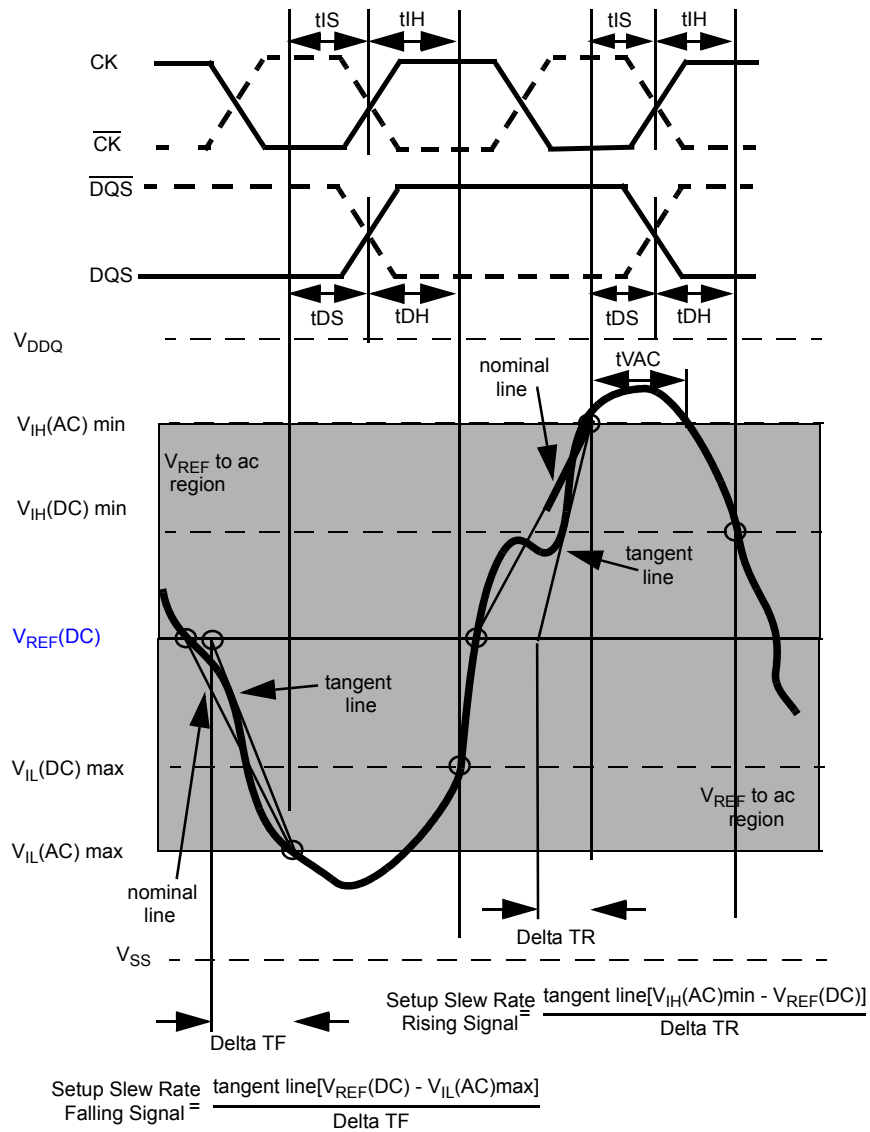

Figure 27 - Illustration of tangent line for setup time t_{DS} (for DQ with respect to strobe) and t_{IS} (for ADD/CMD with respect to clock)
between shaded 'VREF(DC) to ac region', the slew rate of a tangent line to the actual signal from the ac level to dc level is used for derating value (see Figure 27).